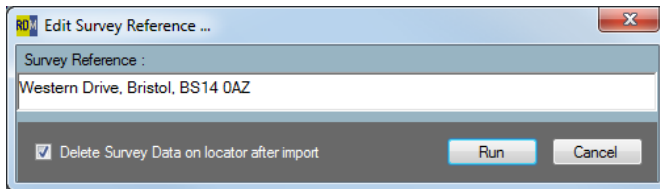

Figure 7.2: Survey Details form (logging or GPS models)
7. Enter Survey Details in the Survey Details window, see figure 7.2 and 7.3